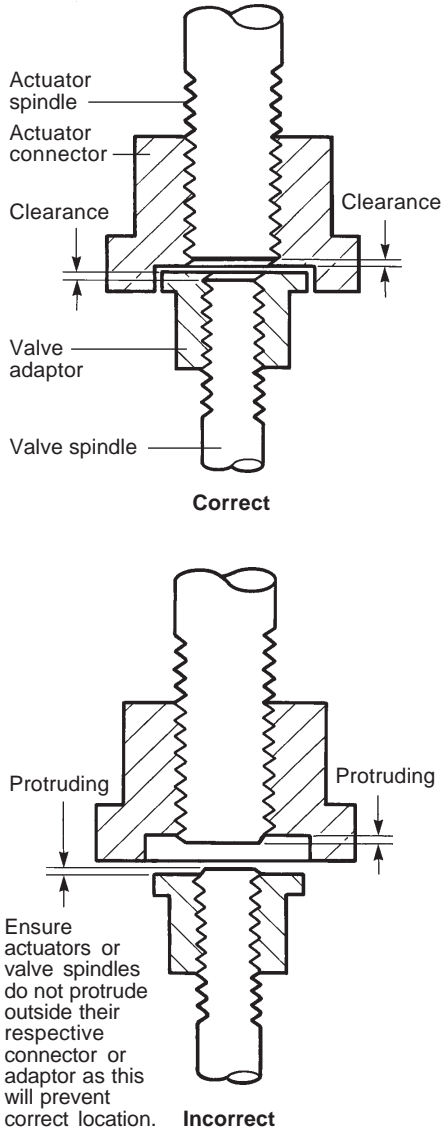

Fig. 3 Assembly of actuator adaptor and valve connector
See Fig. 3 for correct installation.
Ensuring the valve plug is in its fully closed position adjust with equal turns both the actuator connector and valve adaptor until the adaptor enters and presses tightly against the actuator connector. See Fig. 3 for correct installation. Attach the anti-rotation / indicator plate (14), locking plate (15) with socket screws to the actuator connector. Tighten screws. (See Fig. 4).